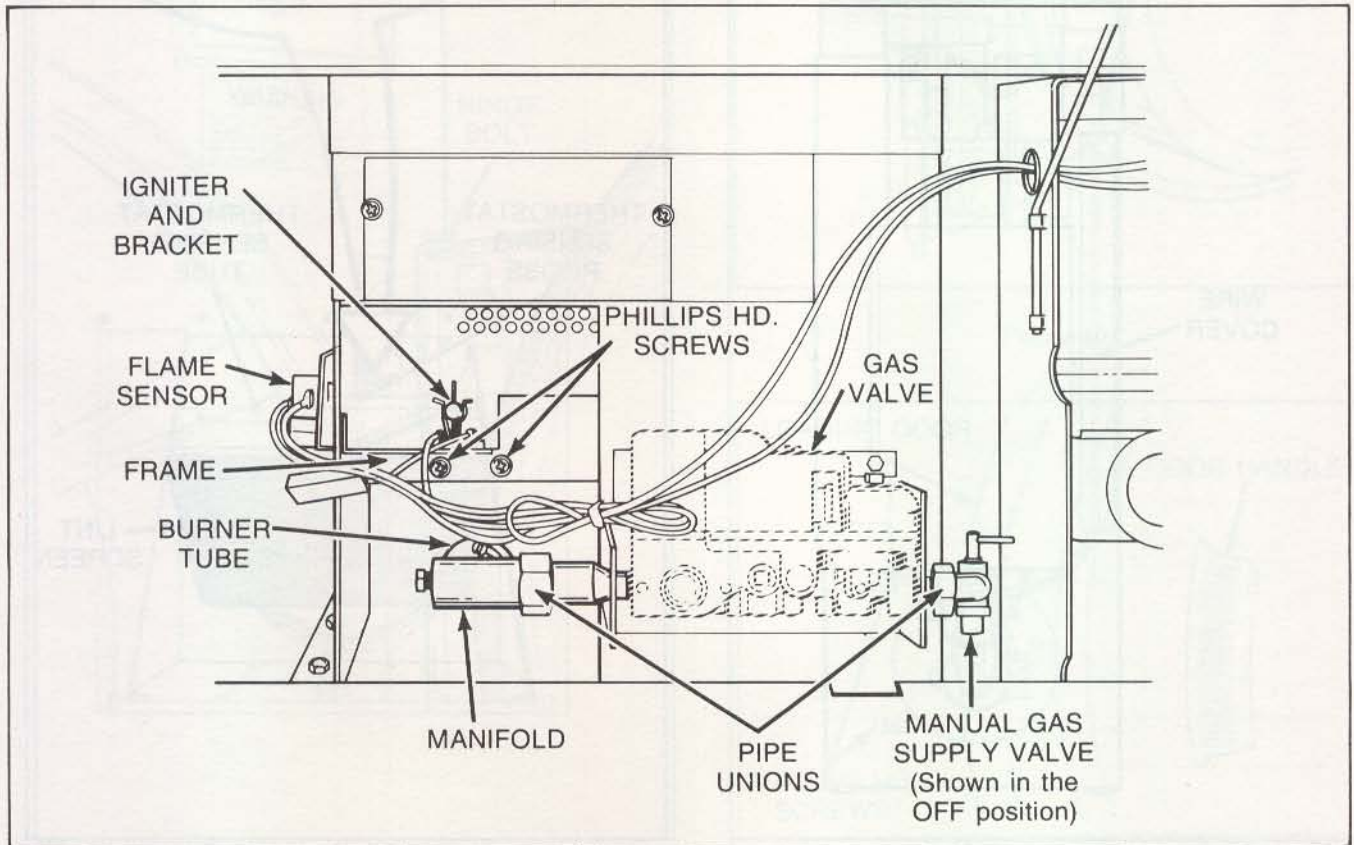

Figure 5
- a. Complete Gas Valve Assembly, Figure 5.
- (1) Unlock and open access door.
- (2) Remove control panel assembly, paragraph 1.
- (3) Close manual gas supply valve.
- (4) Disconnect all wires from gas valve and disconnect gas valve pipe unions.
- (5) Remove Phillips head screws holding gas valve and bracket to stove assembly.
- b. Burner Tube Assembly, Figure 5
- (3) Disconnect gas valve pipe union and remove manifold.
- (4) Remove Phillips head screws holding burner tube to stove frame and remove burner tube.
- c. Igniter and Bracket, Figure 5
- (2) Using a 90 degree tip Tru-Arc pliers, insert the plier tips into holes in each mounting clip and spread clips just far enough for igniter removal.
- (3) Remove screw holding igniter bracket to stove assembly.
- d. Flame Sensor, Figure 5
- (2) Disconnect wires from flame sensor.
- (3) Remove screw holding flame sensor to side of stove assembly.